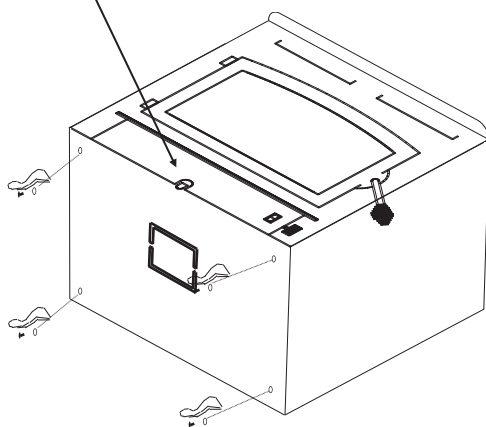

Figure 12
3. Check primary air draft control to ensure that it slides freely.(See Figure 12).
5. **(Leg Kit):** If legs are to be used, obtain four legs, attach legs to holes in bottom of unit with bolts and washers supplied with leg kit. (See Figure 12).